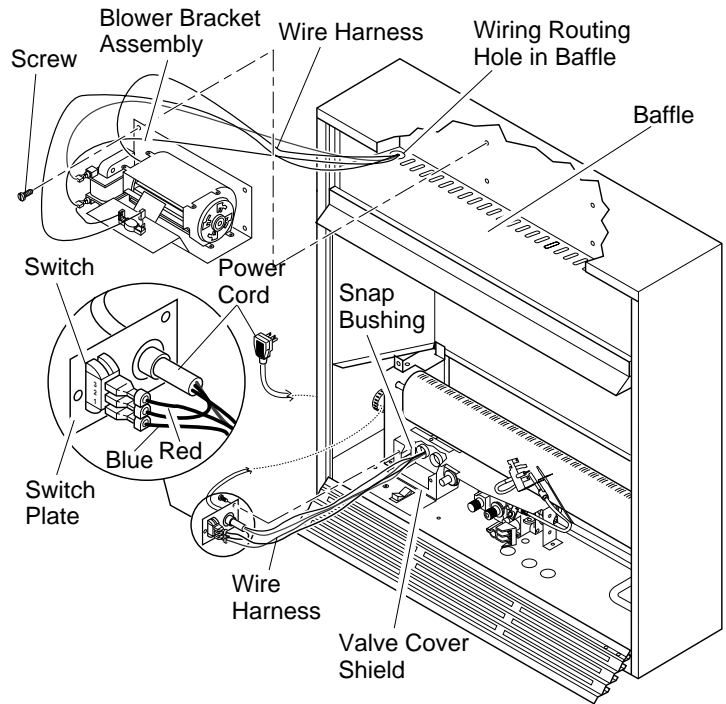
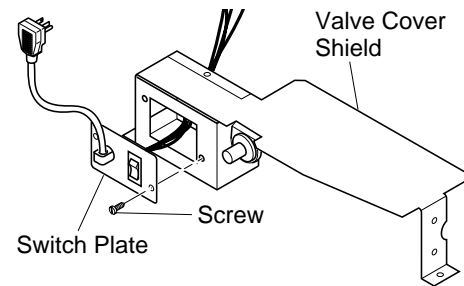

Figure 4 - Installing Blower Bracket Assembly
Figure 5 - Installing Switch Plate to Valve Cover Shield
3. Note the wire locations on back of AUTO/OFF/ON switch. The terminals on back of switch are numbered 1, 2, and 3. Carefully remove red wire from terminal 3 and blue wire from terminal 1. Black wire can remain on middle terminal 2 (see Figure 4).
5. In top of the heater cabinet, locate the four mounting holes on the outer casing. Align these four holes with those on the blower bracket assembly. Attach blower bracket assembly to the outer casing with 4 #10 screws provided (see Figure 4).
6. Route the wire harness through the hole in left side of baffle. Pull wire harness through lower opening on the side of the valve shield. (see Figure 4).
7. Insert the 4 wire harness into one of the round holes in the rear of the valve cover shield and through the rectangular hole in the front of shield (see Figure 4).
9. Install the switch plate on the valve cover shield with 2 #10 screws provided (see Figure 5). Route power cord out of the cabinet by inserting it through the bushing on the outer casing (see Figure 4). Plug fan kit into 120-Volt grounded power supply and test operation. **Note:** When switch is in the AUTO position, the fan will start after the heater has run for a few moments. The fan will continue to run for several moments after the heater has been turned off. When switch is in the ON position, the fan will run until turned to OFF.